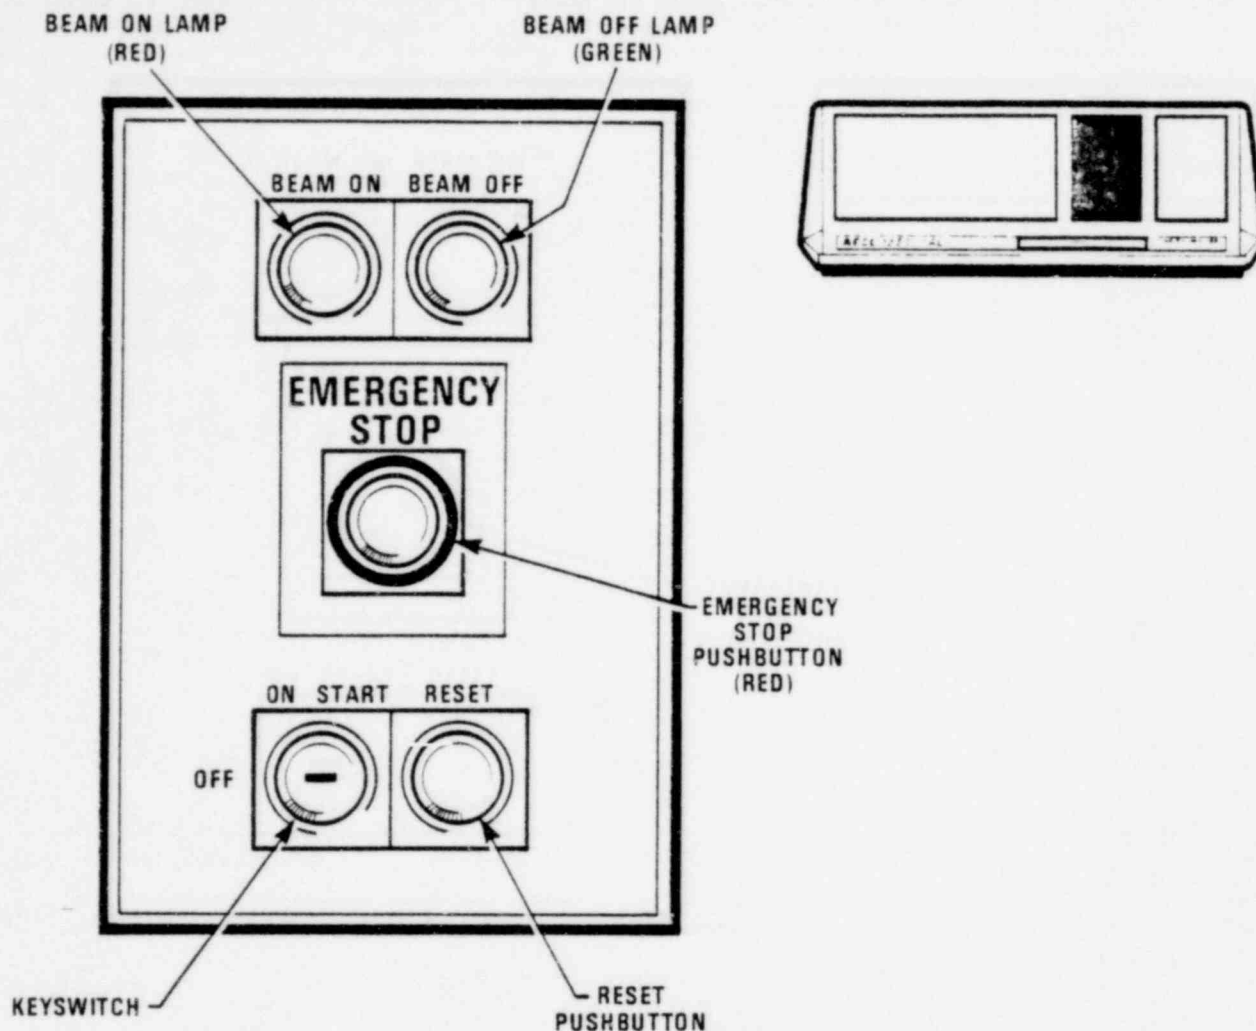

Fig. 3.2. Power Control Panel
3.2.1 Power Control Panel (Fig. 3.2)